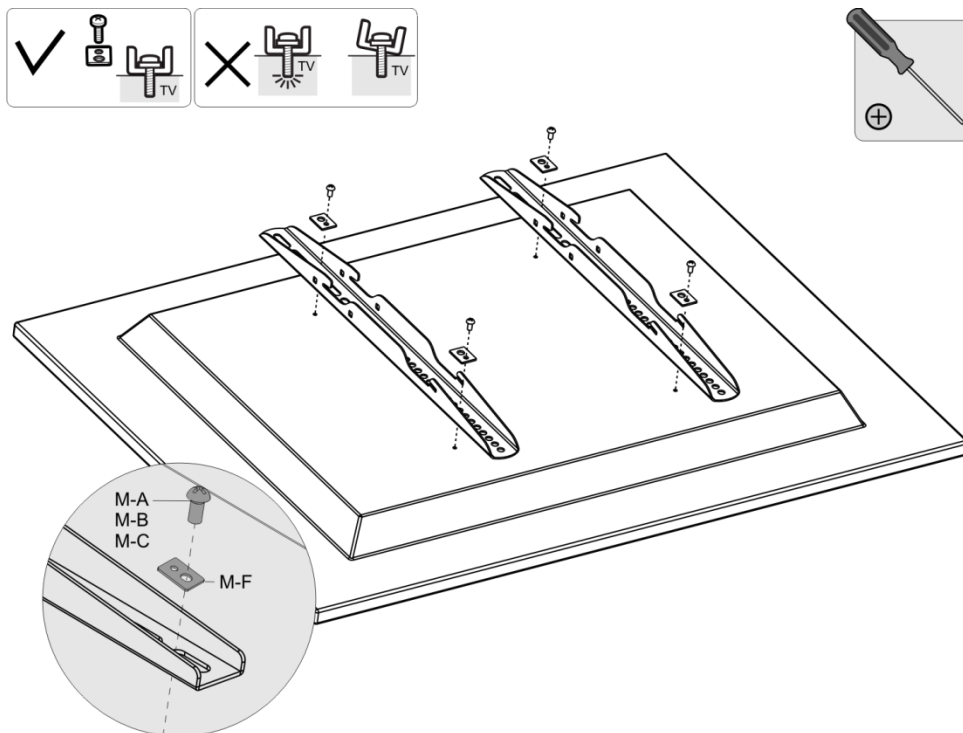

Fig. 05
- 01) Attach the adapter brackets to the back of the screen by using the appropriate combination of screws, washers, as shown in Fig. 05.
- 02) Begin with the shortest screw, hand thread it through the washer and the adapter bracket and into the screen as shown in Fig. 05.